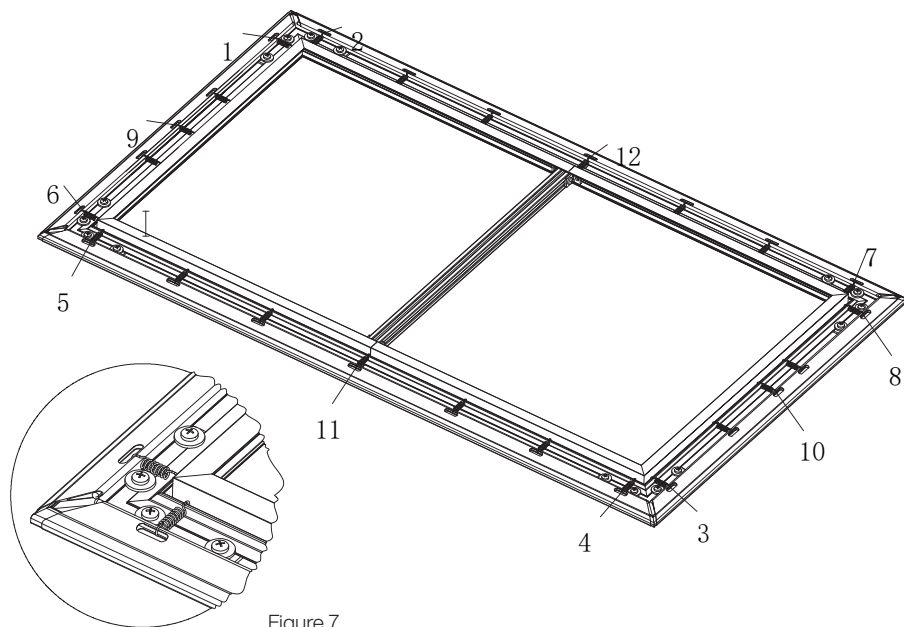

Figure 7
4.3 Hang the screen on the frame with the tension spring. Please follow the following sequence for hooking tension springs: Firstly install the four corner springs in the order of 1-8; then hang the middle springs 9-12, and finally spring from the middle, and install the other springs symmetrically in turn (Figure 7)